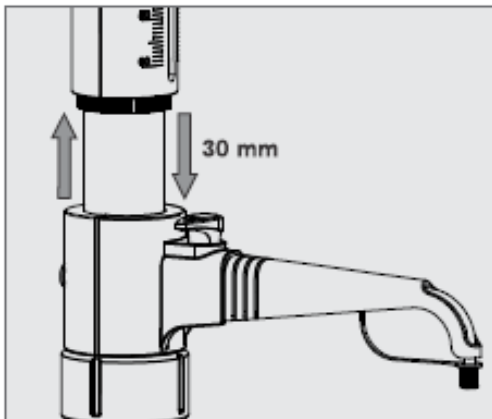

Fig.6
2. Slowly pull up the piston and push it down rapidly till the end. Repeat this process until air bubbles disappear from the cylinder. (Fig.6)